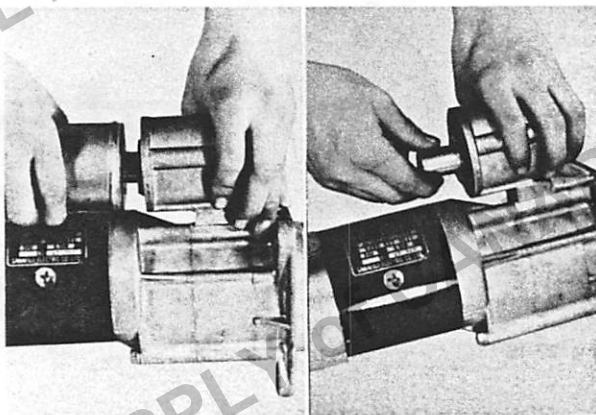

Fig. 22-8 22-064 22-065
- 4) Pull out the engage switch in the direction arrow in Fig. 22-8 (A).
- 5) Move the end of Moving Core from (1) to (2) in the order of arrows in Fig. 22-8 (B) and separate. (Ass.) Apply grease (Albania No.2) over the part marked.